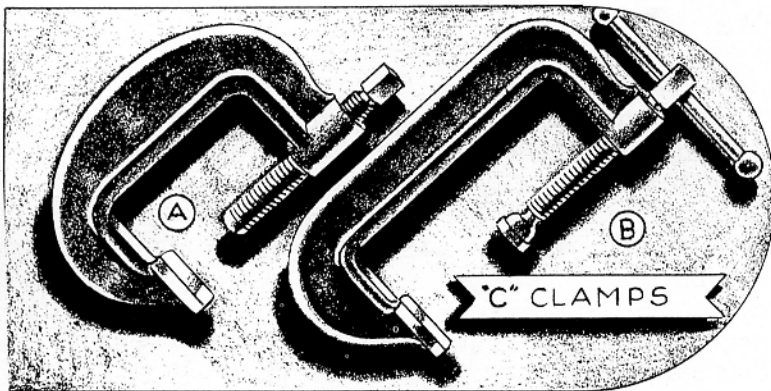

FIG. 115
There are times when clamps and bolts cannot conveniently be employed to hold parts together, and for this reason other clamping devices have been designed which may be substituted. One of these devices is the "C-Clamp" illustrated in Fig. 115. As the name implies, the clamp is shaped like the letter (C). The clamp should be made of tough steel and heat treated after forging to increase its strength and to reduce any tendency to spring. The parts to be held together are clamped between the pad and the end of the screw. When pressure is applied by turning the screw, the pieces are held tightly together.